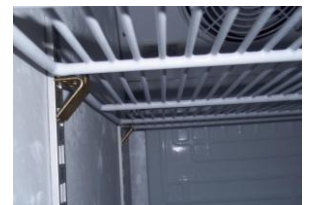

Figure1
- Position the shelves onto the clips. (refer to Figure 1)